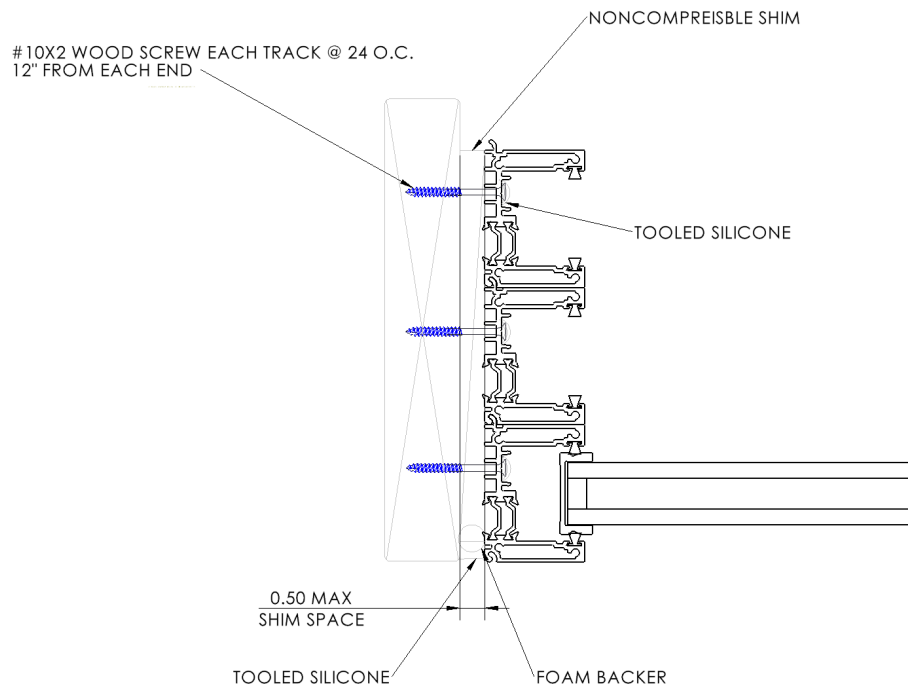

Figure 3
- Jamb - holes should be drilled 12" from each end and every 24" on center per track. See **Figure 3**.